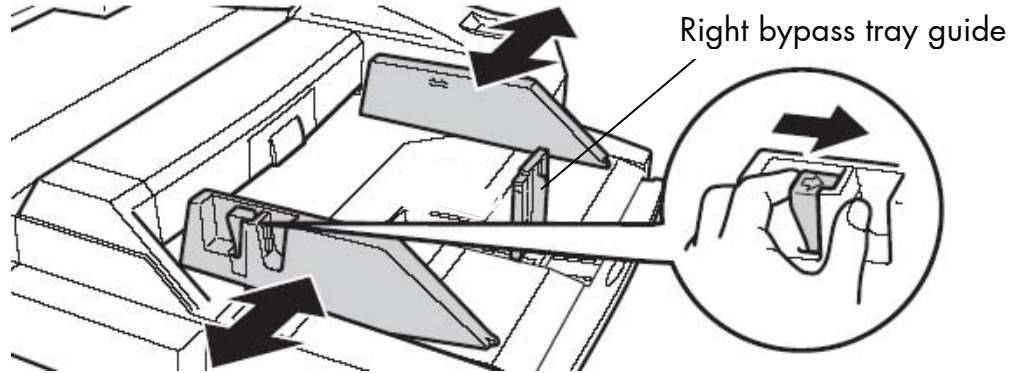

Fig. 3.2.5.b Unlocking and adjusting the paper guides
5. Set the right bypass tray guide to the size of the new print media, too (compare fig. 3.2.5.b; you have to press the lock lever of this guide during the setting procedure ).